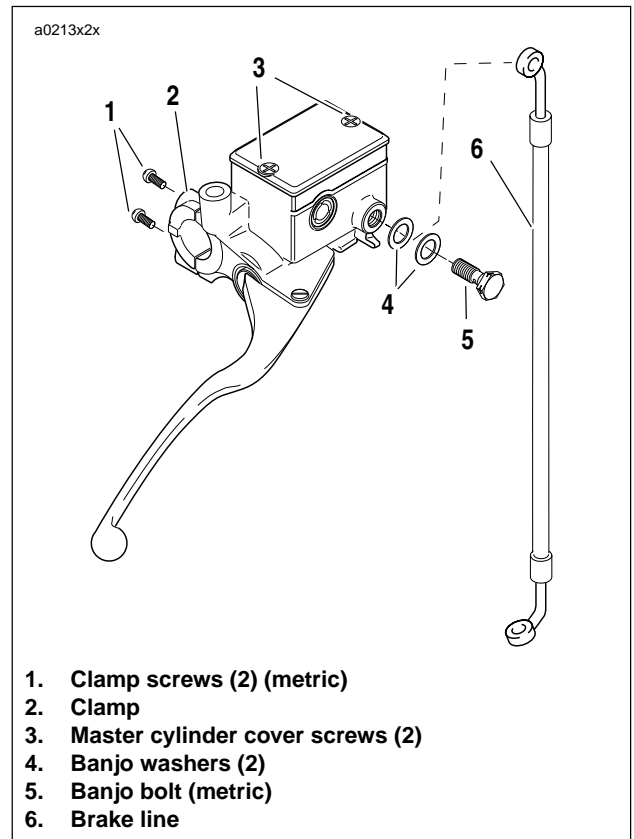

Figure 2-27. Front Master Cylinder
3. See Figure 2-27. Remove banjo bolt (5) (metric) and two banjo washers (4) to disconnect brake line (6) from master cylinder. Discard banjo washers.
- See Figure 2-27. Fasten master cylinder to handlebar by installing clamp (2) and screws (1) (metric). Tighten to 80-120 in-lbs (9-14 Nm).
- See Figure 2-27. Remove the two master cylinder cover screws (3), cover and cover gasket.
- See Figure 2-27. Attach master cylinder cover and cover gasket with the two cover screws (3). Tighten to 9-13 in-lbs (1.0-1.5 Nm).